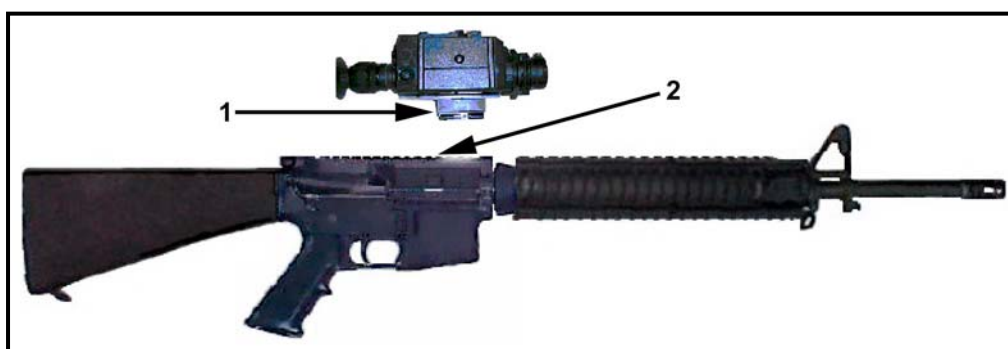

Figure 2-36. Mounting TWS on M16A4/M4-series weapons.
b. **M16A4/M4-Series Weapons** (Figure 2-36). The Picatinny style rail grabber with spacer (1) on the bottom of the TWS is aligned with a notch on the integrated rail (2) of the M16A4/M4-series weapons ensuring the TWS is positioned to accommodate an effective firing position once the eyecup is depressed. The TWS will not retain zero if the rail grabber extends beyond the end of the integrated rail when mounted. Tighten the torque-limiting knob clockwise until it clicks twice. Retightening the rail grabber is recommended after a few rounds have been fired to ensure the sight is fully seated. The mounting procedures are identical for the M16A4 and M4-series MWS.